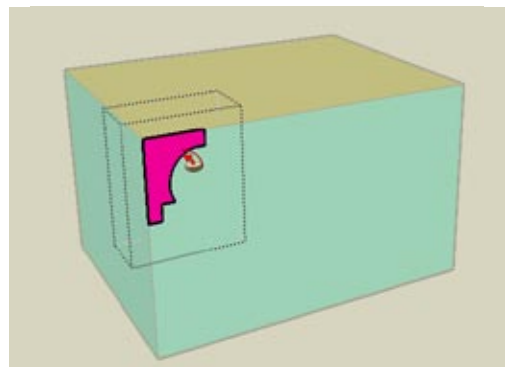

Figure 2-27
5. Click the Follow Me face (Figure 2-27).